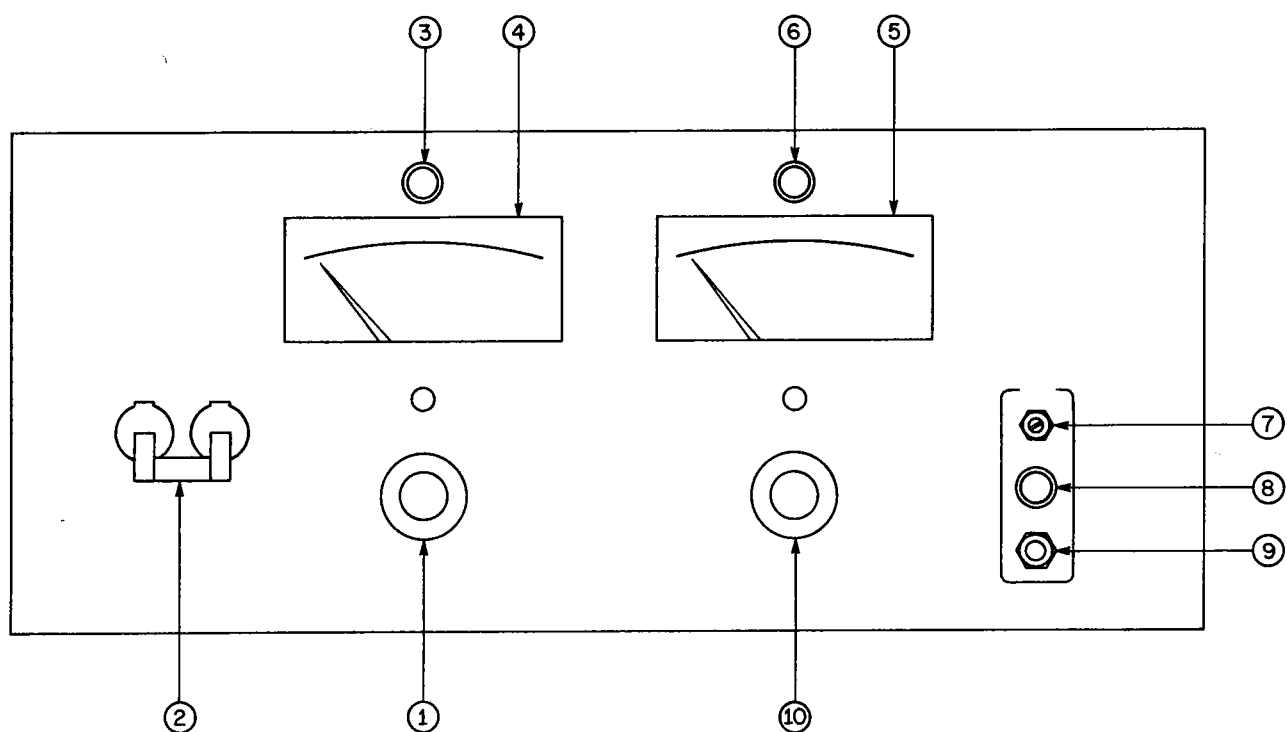
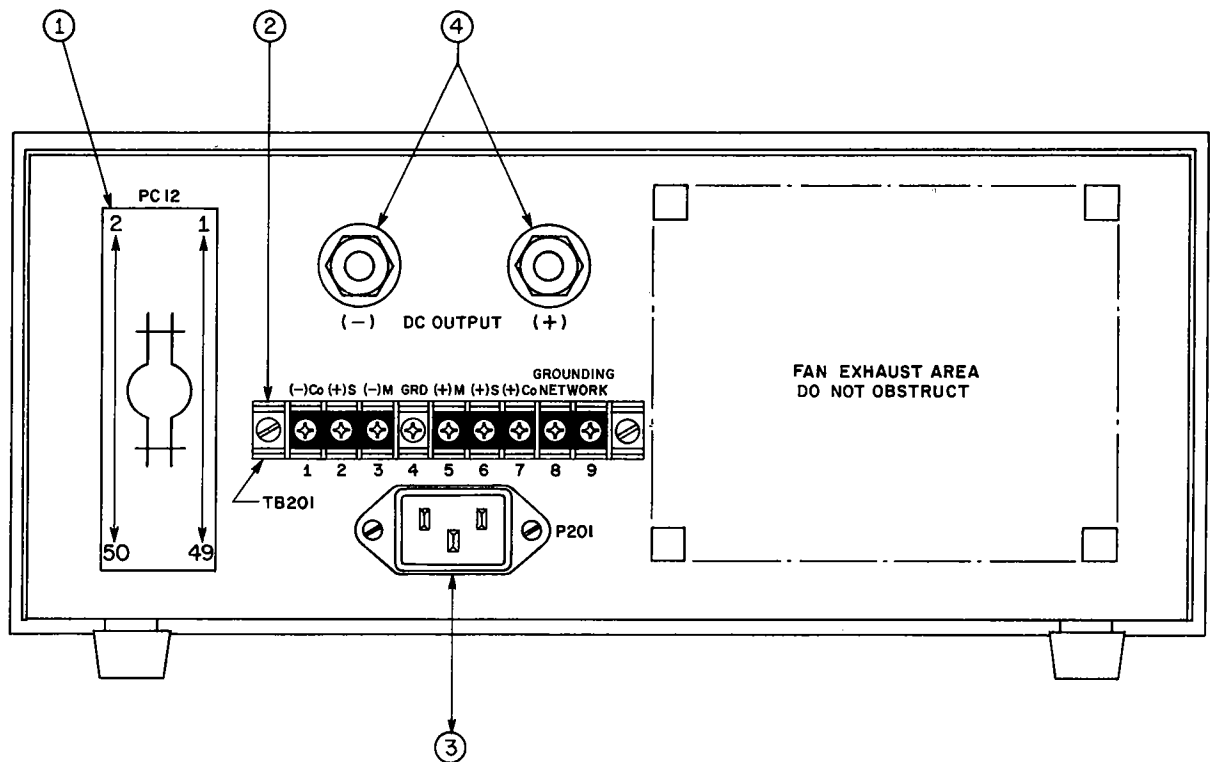

FIG. 2-2 CONTROL AND TERMINATIONS, ATE 3/4 RACK GROUP, FRONT.
FIG. 2-3 TERMINATIONS, ATE 3/4 RACK GROUP, REAR.
- a) FRONT PANEL: Refer to FIG. 2-2 and Table 2-2.
- b) REAR: Refer to FIG. 2-3 and Table 2-3.
- 2-9 A simple operating check after unpacking and before permanent installation is advisable to ascertain whether the power supply has suffered damage resulting from shipment. Refer to FIG. 2-2 and to FIG. 2-3 for the location of the operating controls and output terminals.
- To reset the adjusted crowbar point, press DISARM button again and advance VOLTAGE CONTROL clockwise. Note voltage at which the CROWBAR INDICATOR lights up. Readjust LEVEL control if necessary, by repeating step (2) and check again by repeating steps (3) and (4).
**A resistor/capacitor network is connected from the negative monitor terminal to the metal chassis of the power supply. If this internal network is *not* desired, the connection to the chassis can be opened by removing the link (8)-(9) on TB201 (See FIG. 2-3).**